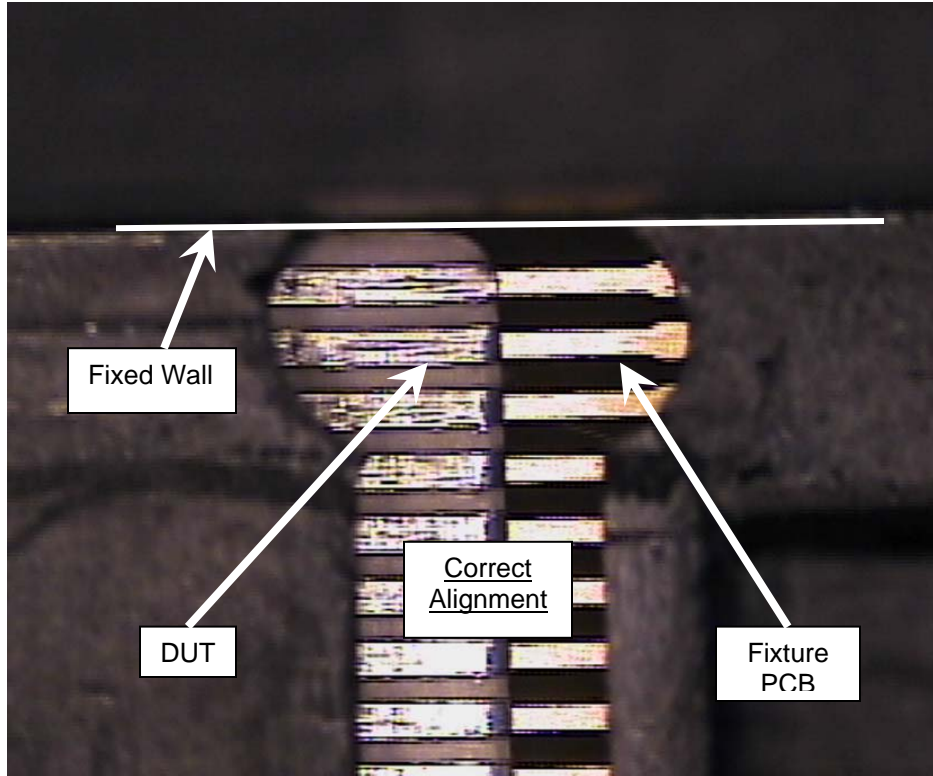

Figure 3
6. Keep the DUT against the Fixed Wall and adjust the PCB position so that the DUT contacts align with the PCB contacts. See Figures 3 & 4 for proper alignment.